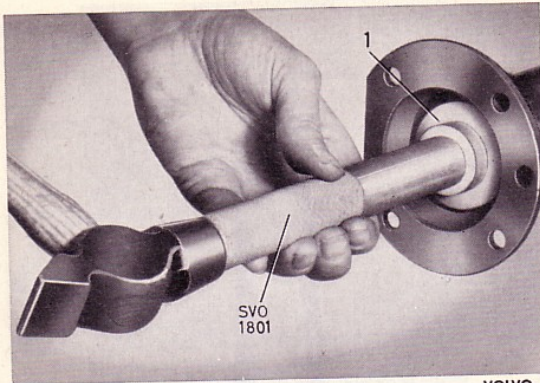

Fig. 15. Fitting bearing ring
4. Pack the bearing with a high quality multi-purpose grease. After installation, the entire space between the oil seals should be filled with grease. Fit the drive shaft in the drive pinion carrier. Drive in the bearing outer ring with sleeve SVO 2205, see Fig. 15.